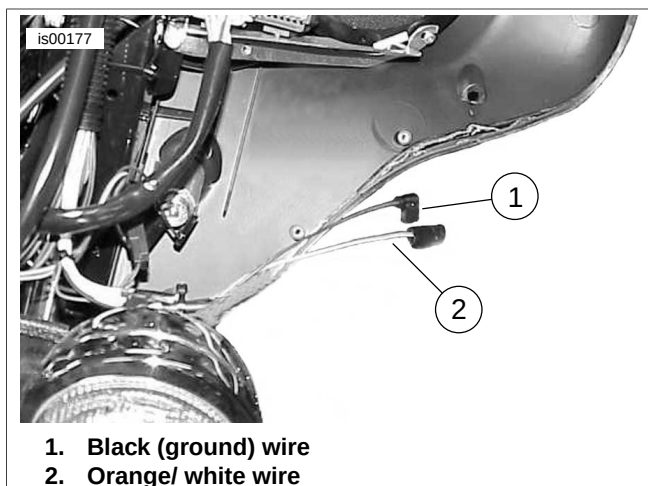

Figure 3. Wires for GPS Connection
1. See Figure 3, and the interconnect harness wiring diagram in the service manual.